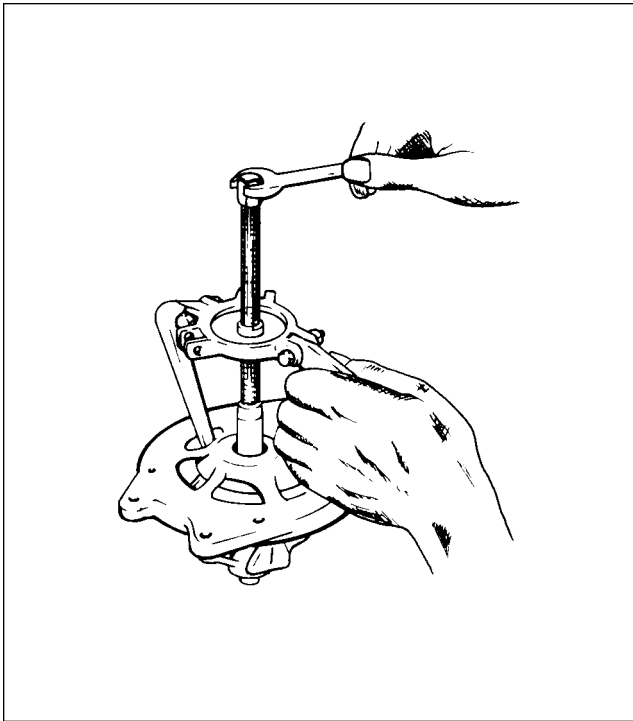
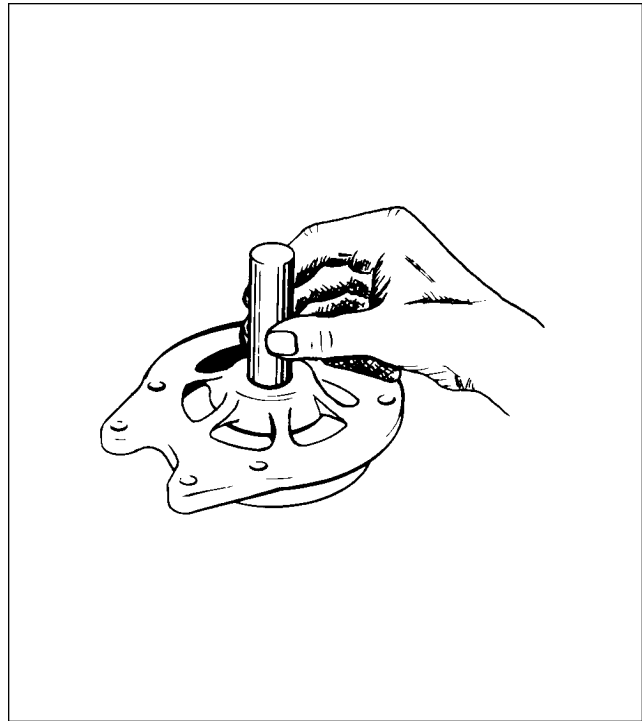

Figure 24-31. Removal of Drive End Head
Figure 24-32. Removal of End Head Bearing
7. On PA-28RT-201 models to remove the drive end head from the rotor shaft, use a puller that grips on the bearing retainer plate as shown in Figure 24-31. Do not attempt to remove by supporting the end head and pressing on the shaft, as this may result in distortion of the end head or stripping of the retainer plate screws. Remove the three retainer plate screws and press the bearing out of the end head. (Refer to Figure 24-32.) On PA-28RT-201T models support the drive end head and carefully press out the rotor assembly. Remove the three retainer plate screws and press the bearing from the end head. (Refer to Figure 24-32.)